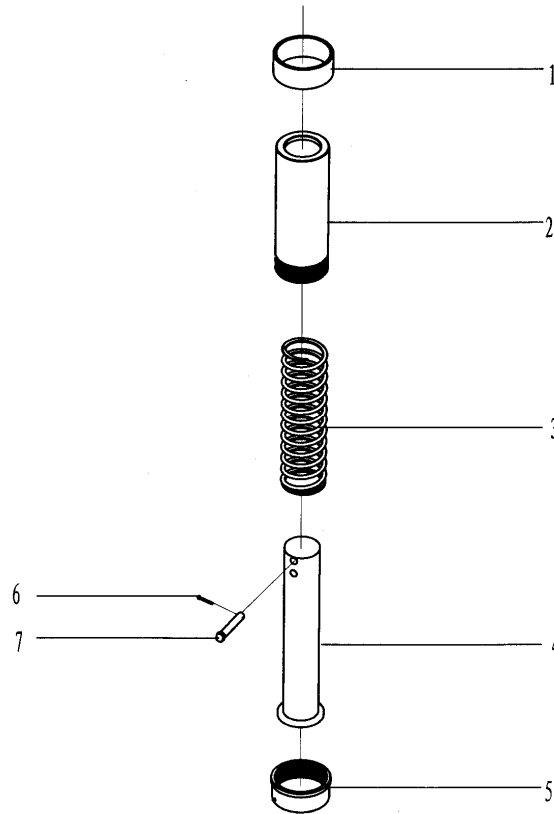

Fig13. Back guide pole assembly
7.5 Back guide pole assembly (Fig13. Table13)